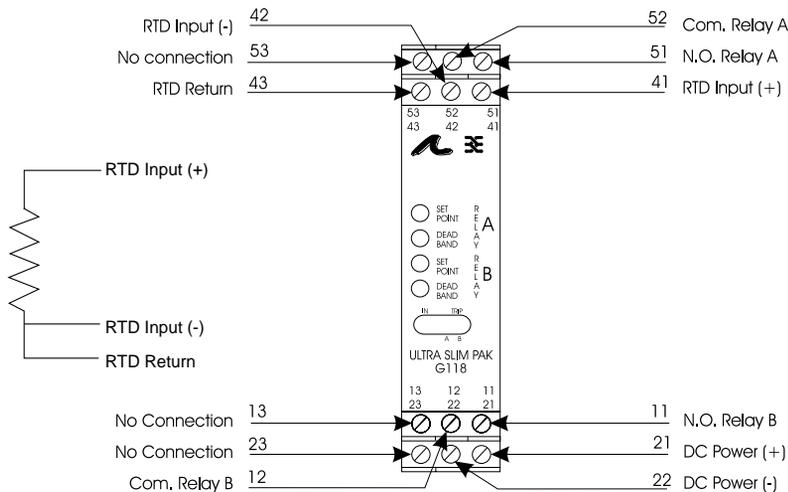

Figure 6: Wiring Diagram for G118
1. After configuring the DIP switches, connect the input to a calibrated RTD source or a resistance decade box and apply power. (Figure 6).